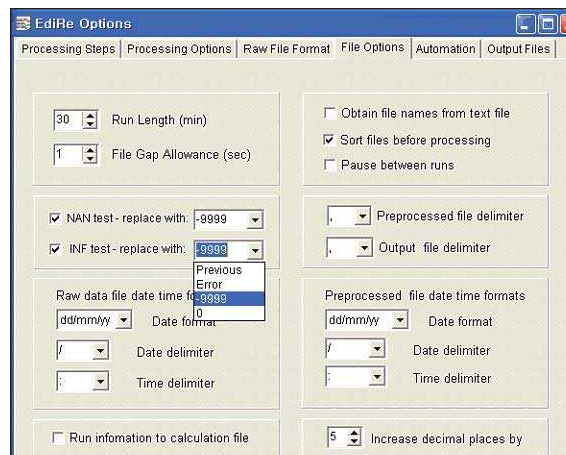

Figure 24: A replacement value of -9999 has been selected for NAN and INF.
2. Select -9999 for replacement values for NAN and INF as shown in the Figure 24, and check the boxes next to NAN test and INF test to activate this feature.